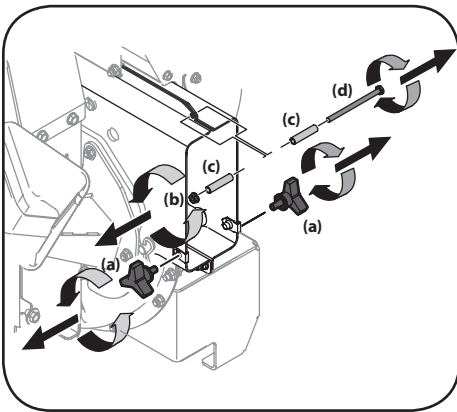

Figure 3-1
1. Remove the wing knobs (a) from each side of the lower impeller housing. See Figure 3-1.
2. Remove the hex lock nut (b), spacers (c), and hex bolt (d) from the top of the impeller housing. See Figure 3-1.